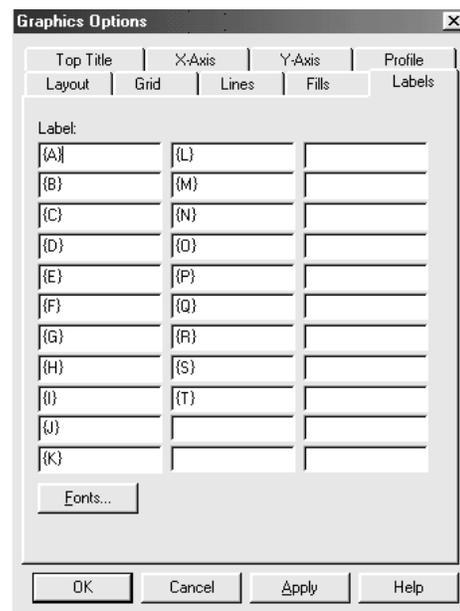

Figure 5-5. Label Tab Page
4. Click the left mouse button on the graph, right click it to display the pop-up menu, then left click on Graphics Options to display the Graphics Options dialog box opened to the Label tab page (see Figure 5-5).